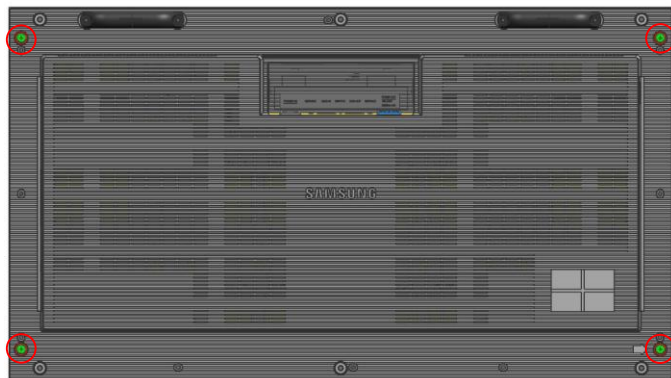

Fig1. Positions of BOLT ETCs fastened in delivered product
- ① Check that the BOLT ETCs are fastened. **(Fig.1)**